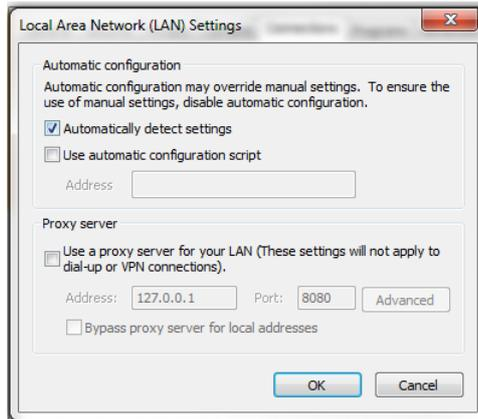

Figure 3-27 Local area network settings
2) In the page shown, click **LAN Settings (L)** to pop up the page as shown in the Figure3-27.